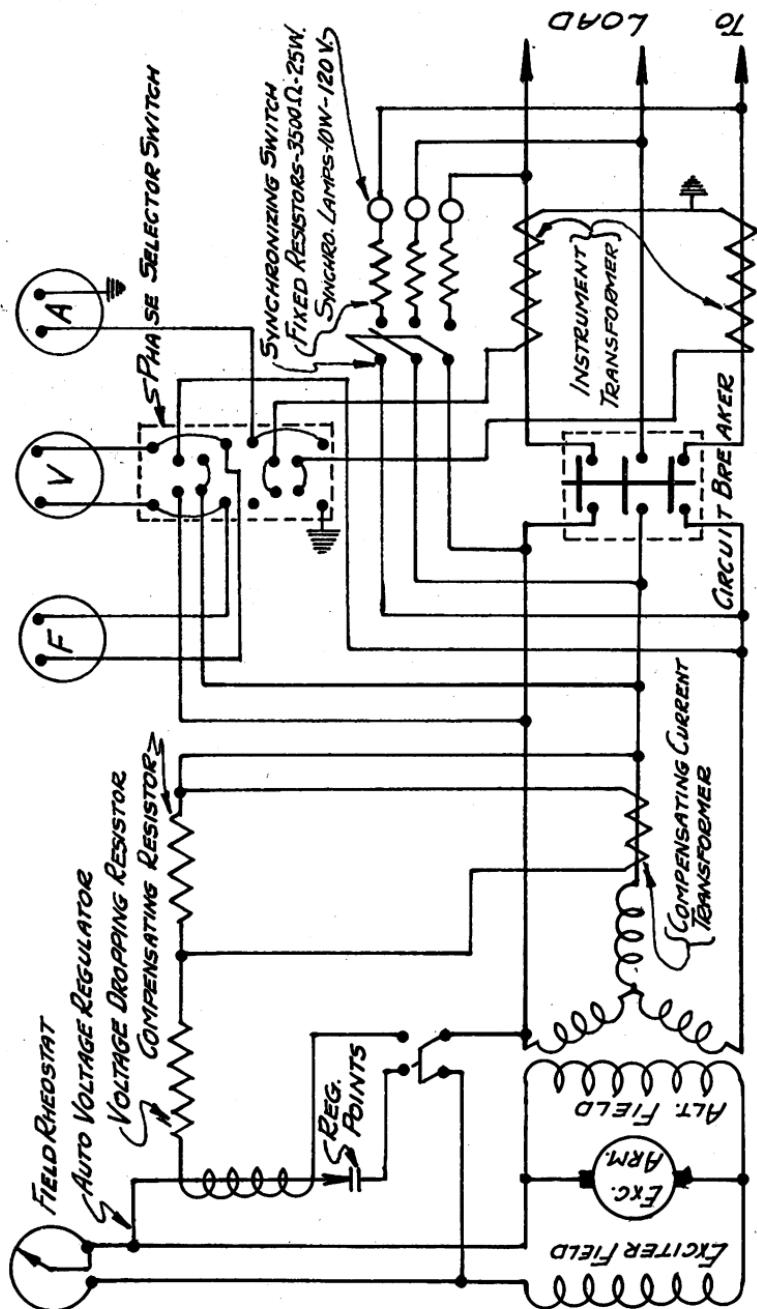

Figure 9. Alternator and control panel wiring diagram.
d. Rheostat (fig. 3 [H]). The rheostat permits the control of the alternator output voltage. The rheostat is simply an adjustable resistance placed in series with the exciter field winding and serves to lower or raise the voltage fed to the alternator revolving field winding through the slip rings connected to it. The automatic voltage regulator (fig. 3 [N]) is designed to control the rheostat without attention from the operator. Figure 9 shows how the voltage regulator is connected in the exciter field circuit. The lowering of the alternator output voltage due to an increase in load will cause the regulator points to make contact. This action shorts the field rheostat, increasing the exciter output voltage fed to the alternator field winding. The alternator output voltage is increased as a result of the increased field strength. If the voltage is increased more than $2\frac{1}{2}$ percent of the rated voltage, the regulator contacts are